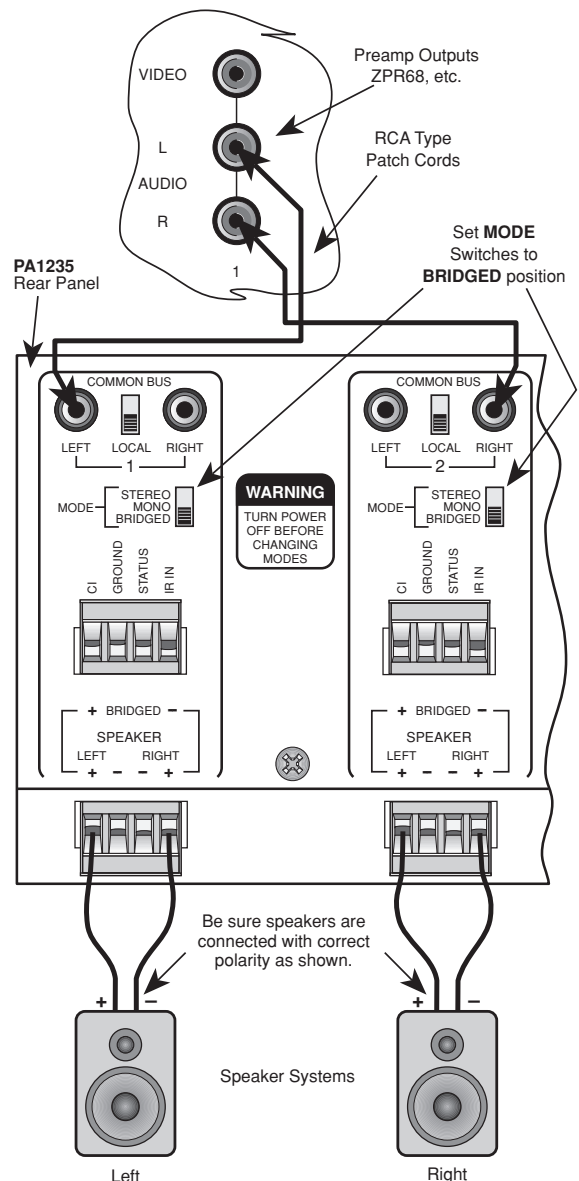

Fig. 7 BRIDGED Mode Connections
1. You may connect the RCA-type patch cables from the OUTPUT jacks of the driving preamp or other source to either the LEFT or the RIGHT input jacks of the bridged pair, as shown in **Fig. 7**.
3. Connect one speaker wire pair between the 4-terminal "SPEAKER" connectors on the PA1235 and the speakers as shown in **Fig. 7**. Be sure to use only the two outer terminals marked "+" and "-" on the 4-terminal connector as shown on the panel for BRIDGED connections.